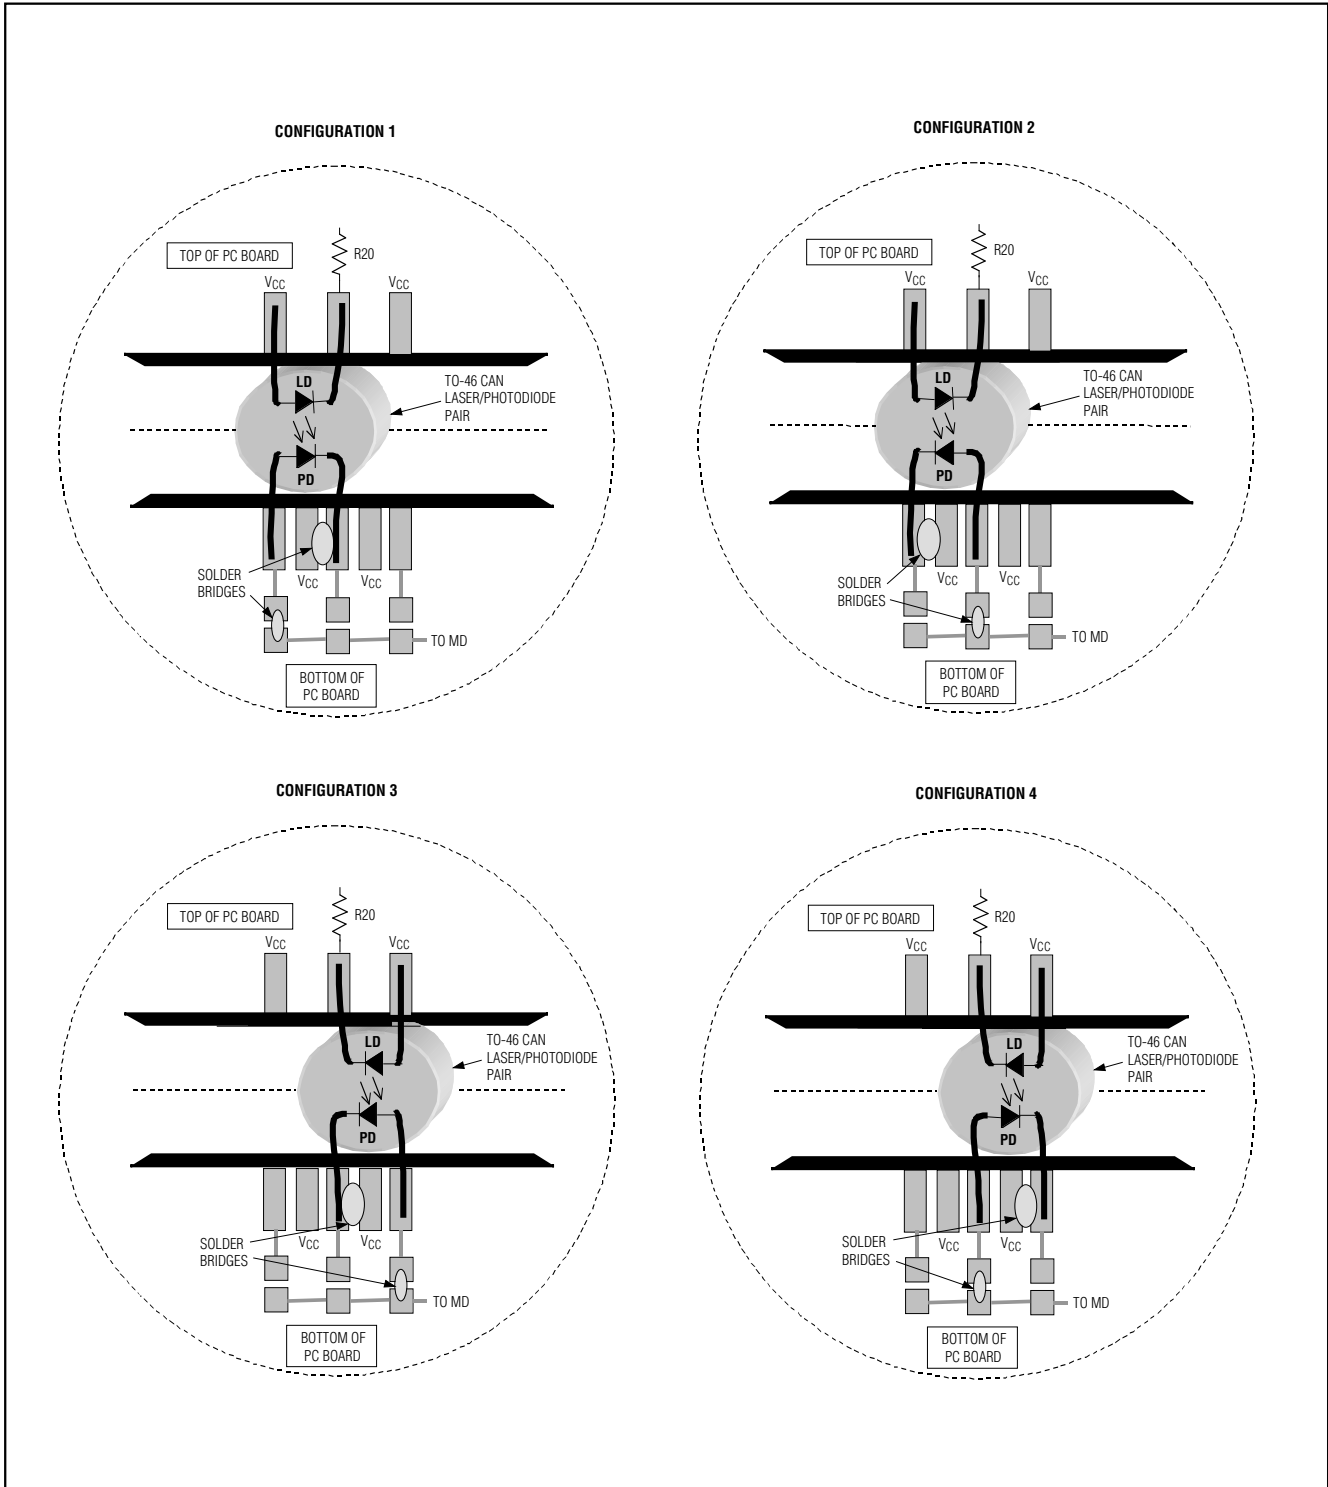

Figure 1. Attachment of Laser Diode/Monitor Diode to MAX3869 EV Kit
- 3) The EV kit is designed to allow connection of a variety of possible laser/monitor diode pin configurations. Connect a TO-header style laser with monitor diode (Figure 1) as follows:
- Connect the monitor photodiode to two of the five pads on the bottom (solder) side of the PC board, directly below the laser diode pads. Three of these pads (the middle and outside positions) are initially not connected. The other two pads are connected to V_{CC}. Solder the anode and cathode of the monitor photodiode to any two of the three pads that are not connected. Then connect the anode to the MD pin by shorting the corresponding solder jumper (Figure 1). Connect the cathode to V_{CC} by using solder to bridge to an adjacent V_{CC} pad.